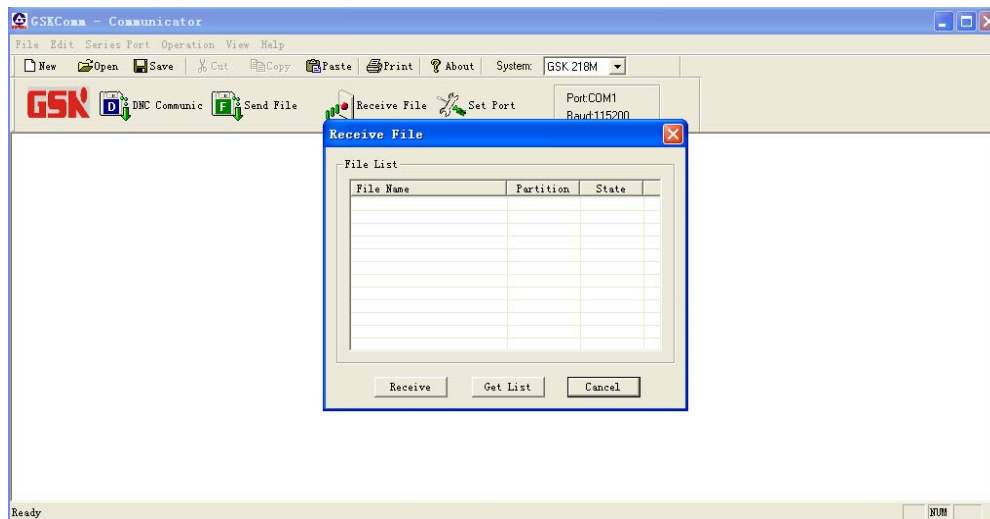

Fig. 11-1-3-1
2. Click button  on GSK Com serial communication software, then “Receive File” dialog pops up, as is shown in fig. 11-1-3-1.
3. Click button  in Receive File dialog to obtain the CNC file list, as is shown in fig. 11-1-3-2: